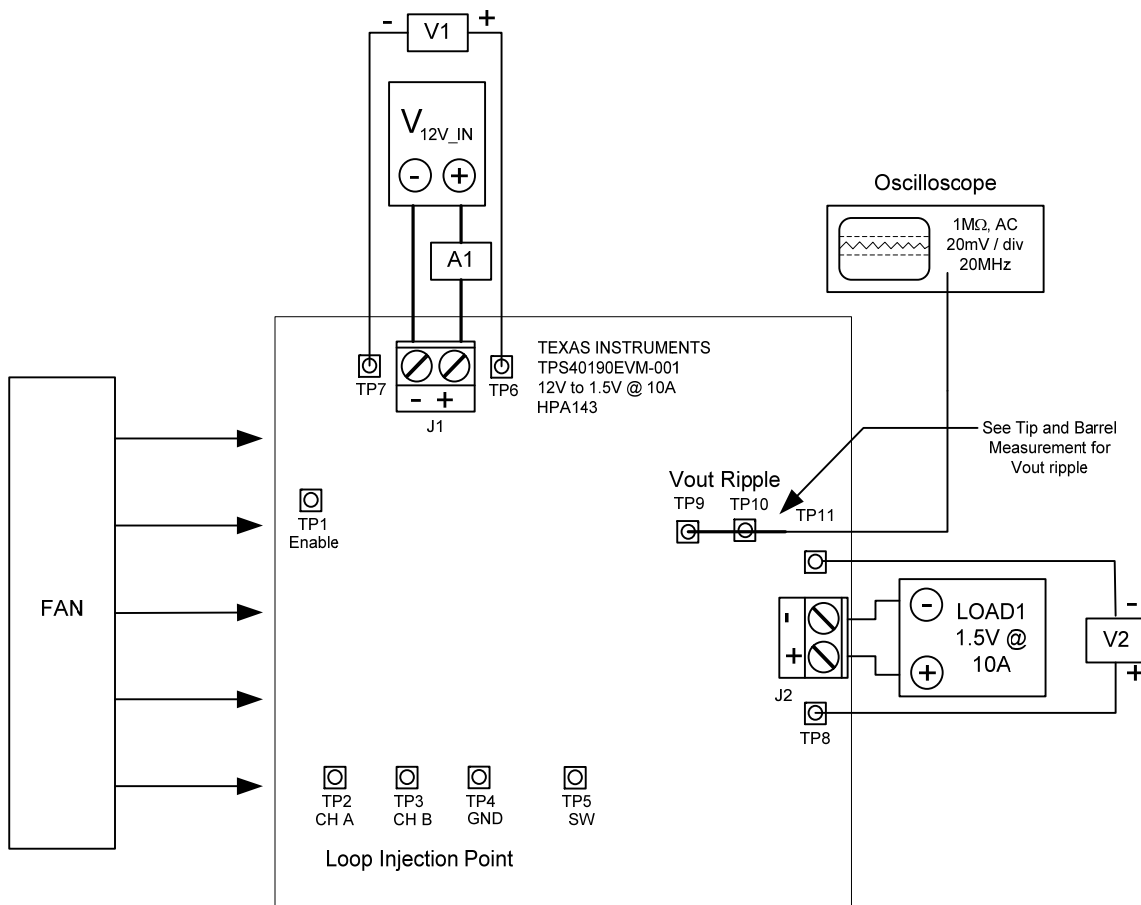
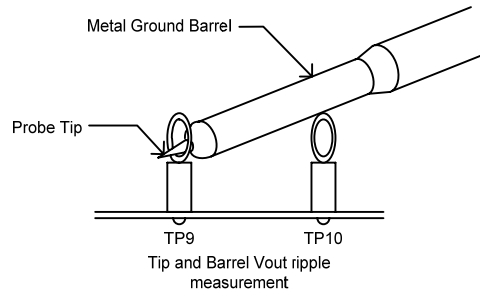

Figure 2: TPS40190EVM-001 Recommended Test Set-Up
Figure 3: Output Ripple Measurement - Tip & Barrel using TP9 and TP10
The input voltage source (V_{12V_IN}) should be a 0-15V variable DC source capable of 5Adc. Connect V_{12V_IN} to J1 as shown in Figure 3.
A Digital or Analog Oscilloscope can be used to measure the ripple voltage on V_{OUT} . The Oscilloscope should be set for 1M Ω impedance, 20MHz Bandwidth, AC coupling, 1 μ s/division horizontal resolution, 20mV/division vertical resolution for taking output ripple measurements. TP 9 and TP 10 can be used to measure the output ripple voltage by placing the oscilloscope probe tip through TP 9 and holding the ground barrel to TP 10 as shown in Figure 3. For a hands free approach, the loop in TP 10 can be cut and opened to cradle the probe barrel. Using a leaded ground connection may induce additional noise due to the large ground loop area.
Shown in Figure 3 is the basic test set up recommended to evaluate the TPS40190EVM-001. Please note that although the return for J1 and J2 are the same, the connections should remain separate as shown in Figure 2.
2. Prior to connecting the DC input source, V_{12V_IN} , it is advisable to limit the source current from V_{12V_IN} to 5.0A maximum. Make sure V_{12V_IN} is initially set to 0V and connected as shown in Figure 2.
3. Connect the ammeter A1 (0-5A range) between V_{12V_IN} and J1 as shown in Figure 2.
4. Connect voltmeter V1 to TP6 and TP7 as shown in Figure 2.
5. Connect LOAD1 to J2 as shown in Figure 2. Set LOAD1 to constant current mode to sink 0Adc before V_{12V_IN} is applied.
6. Connect voltmeter, V2 across TP8 and TP11 as shown in Figure 2.
7. Connect Oscilloscope probe to TP9 and TP10 as shown in Figure 3.
8. Place Fan as shown in Figure 2 and turn on, making sure air is flowing across the EVM.